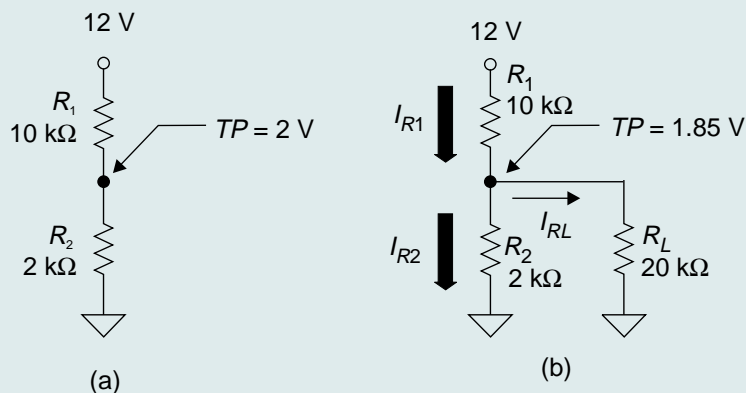

FIGURE 5-3 Voltage divider circuit
Calculate the voltage at the junctions of  $R_1$  and  $R_2$  for both circuits shown in Figure 5-3 and determine the percentage of change in voltage caused by adding the load.
**Step 1.** Calculate the voltage at the test point for the circuit in Figure 5-3(a). The circuit is an unloaded voltage divider, and the voltage at the test point can be calculated by using the voltage divider formula.
**Step 2.** Calculate the voltage at the test point for the circuit in Figure 5-3(b). The parallel equivalent resistance ( $R_{EQ}$ ) of  $R_2$  and the load resistor must first be calculated before the voltage divider formula can be used.
The voltage divider circuit in Figure 5-3(b) can be considered a lightly loaded voltage divider because the load resistor is ten times the resistance of  $R_2$ . The load causes the voltage at the junction of the voltage divider to drop by 7.5%. Loads with higher resistance will cause a smaller drop in voltage, and loads with lower resistance will cause a greater drop. A good rule of thumb is to consider the voltage divider lightly loaded if the load is ten times or greater the value of the parallel resistor ( $R_2$  in this case). For lightly loaded voltage dividers, the voltage at the junction of the divider can be approximated using the simple voltage divider formula.
Figure 5-3(b) shows that the conventional current through  $R_1$  divides, and a portion of the current flows through  $R_2$  while the remainder flows through the load resistor. If the voltage divider is lightly loaded, most of the current will flow through  $R_2$ , and less than 10% of the current will flow through the load.